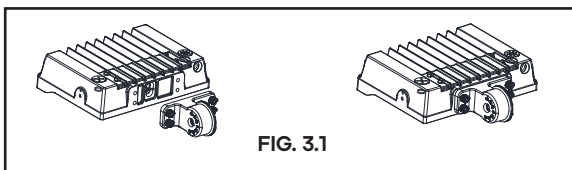

FIG. 3.1
STEP 2. Pass the rubber wire through the mounting head of the bracket and secure it with an inner hexagon screw. (Be careful not to scratch the wire). **FIG. 3.1**